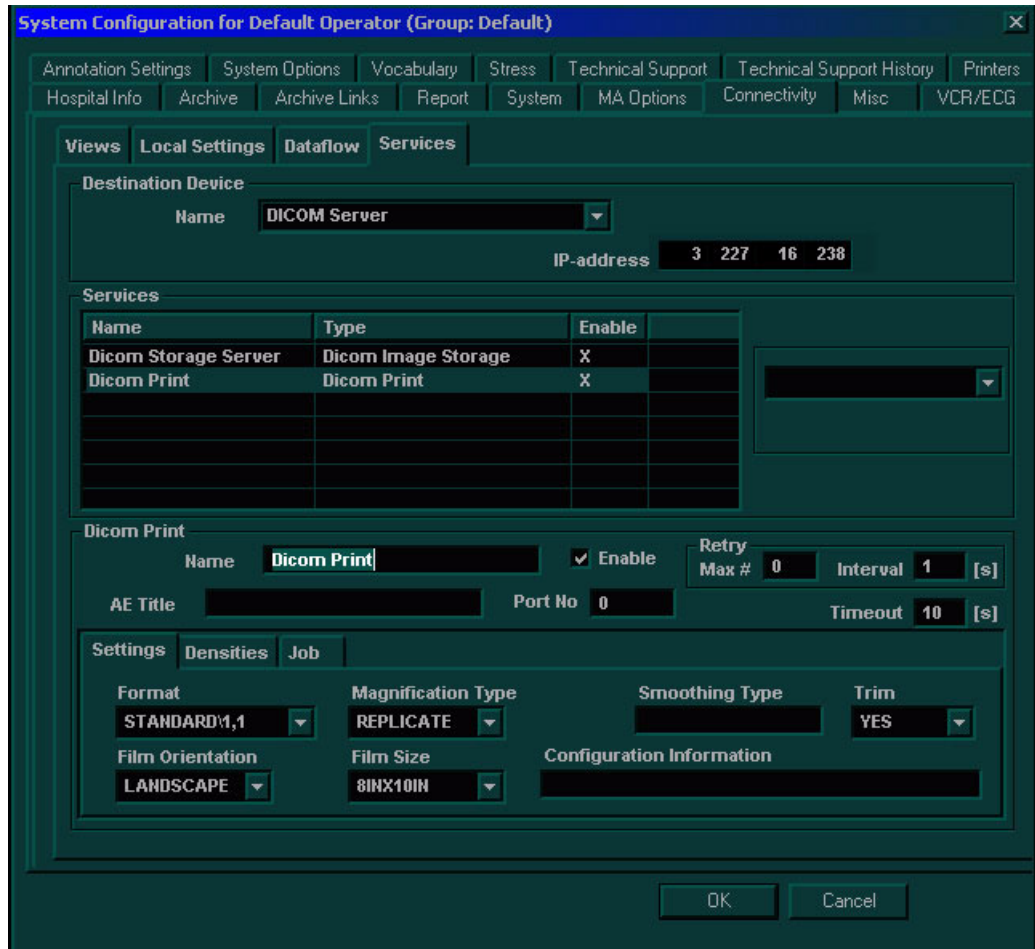

Figure 3-42 Connectivity Tab (Services for DICOM Print Expanded)
- 11) Trackball to the **Dicom Print** line in the **Services** table. The **Services** tab is expanded, as shown in Figure 3-42 below.